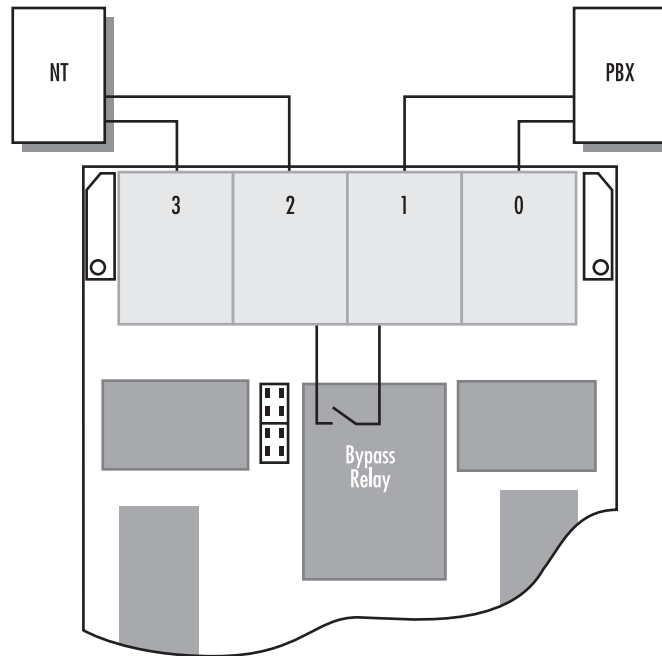

Figure 20. Two ports connected to the PBX and two ports to the ISDN network
- Two ports (0, 1) are connected to the PBX and two ports (2, 3) to the ISDN network (see figure 20 on page 41). In this case, both local breakout ports (four B-channels) can be used to route calls to the ISDN network. Only port 1 is protected by the bypass relay.